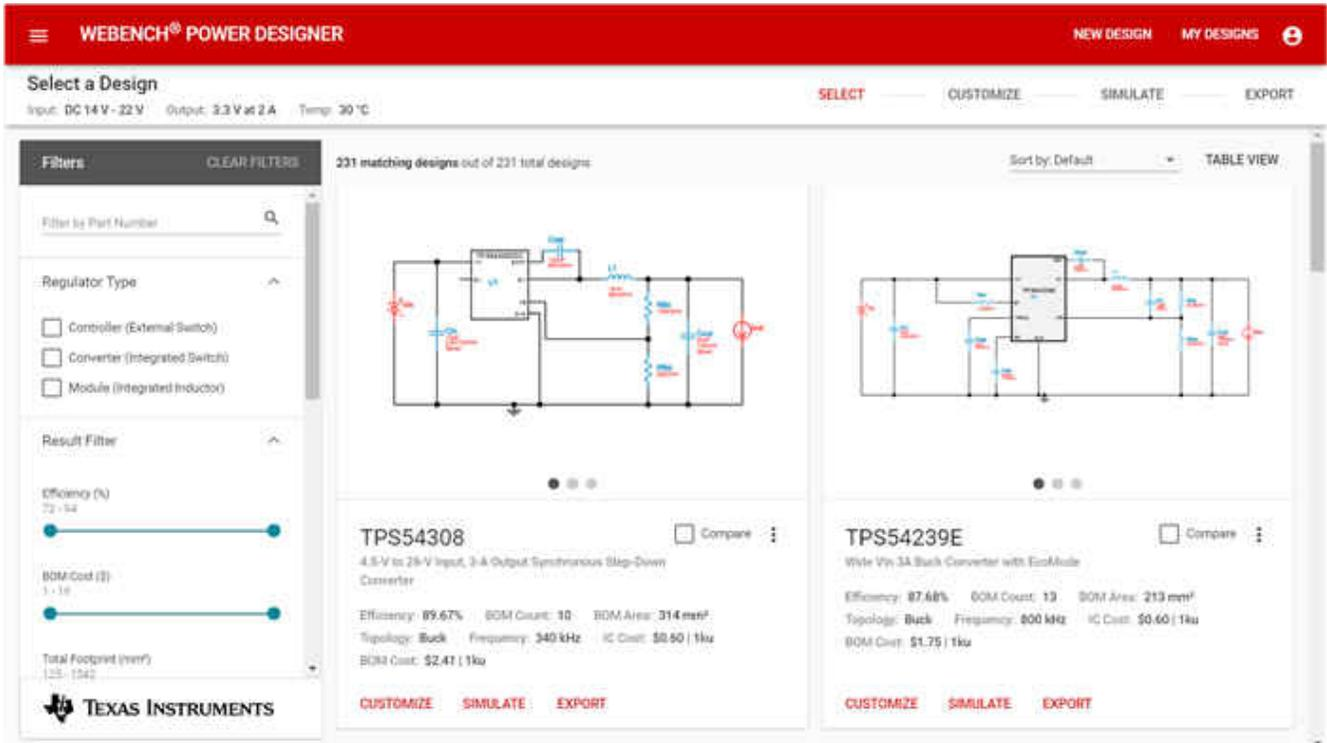
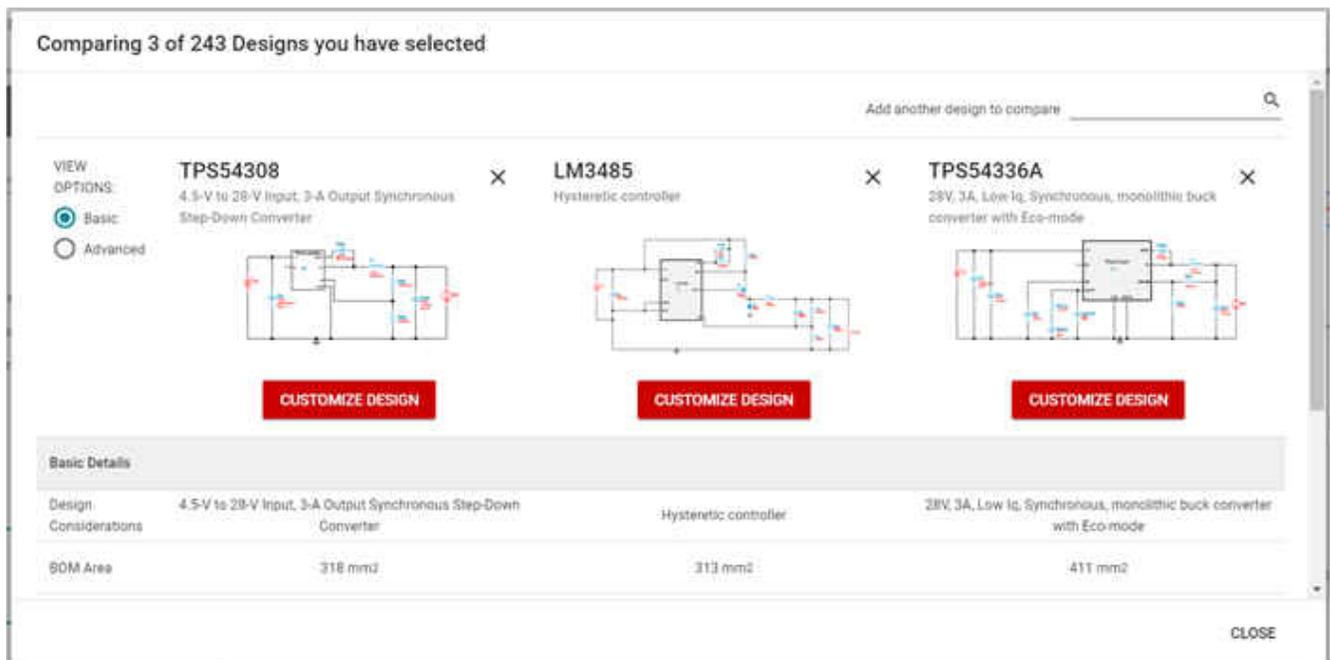

Figure 2. Select Screen Card View
Figure 3. Select Screen Compare Popup
The first step in the power design process is to select your design. WEBENCH Power Designer previously calculated operating values and generated a thumbnail of what the schematic may look like. New optimized algorithms now enable you to generate full power designs. Our large selection of filters lets you narrow down which design would best fit your needs. For users who are used to the original flash version, there's still a table view option. However, a new card view, pictured below in Figure 2, is the default view in the selection step.
Figure 2 above shows the new selection screen with check boxes on each design to compare designs. This new feature generates a table, displayed in Figure 3, with additional information such as integrated circuit (IC) parameters and IC features which enables a side-by-side comparison of multiple designs.